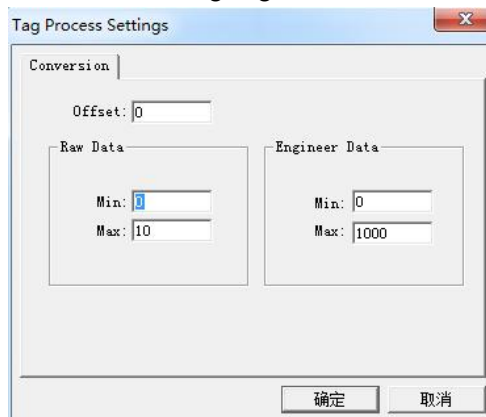

Figure 2-12-14 Tag Process Settings
- **Scale:** Check single box “**Enable**” and click the button “**Setting...**” to enable liner transformation, as the following Figure 2-12-14 shows.